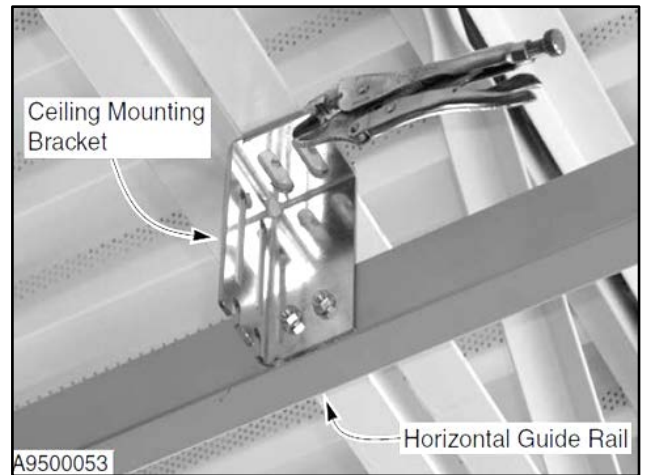

Figure 43
7. Install adequate ceiling mounting brackets to the horizontal guide rail (track) assembly. Must be provided by others. The tracks must be level & true with the rest of the track assembly. (See Figure 43)